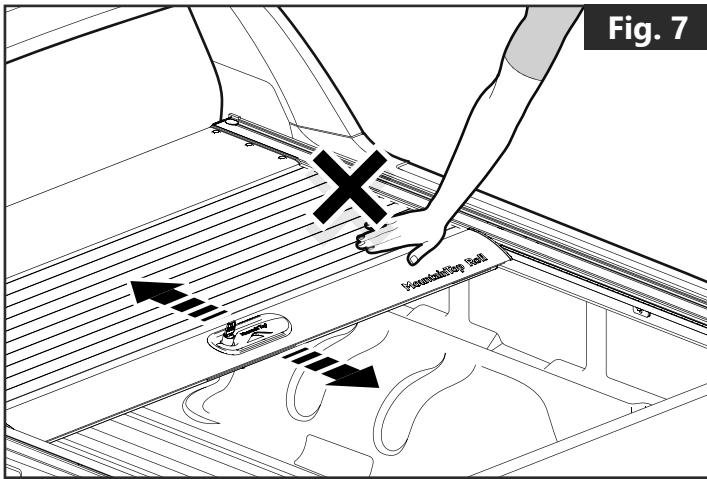

Fig. 7
- Remove fingers from lamellas when opening and closing. **(Fig. 7)**